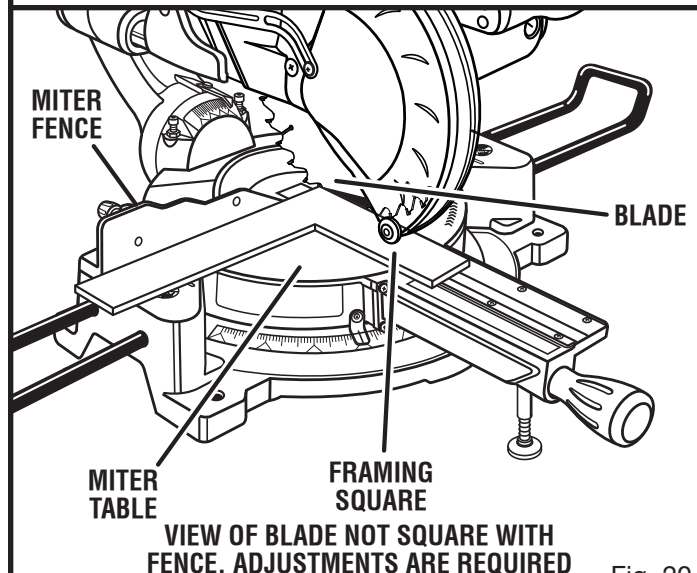

Fig. 20
- If the front or back edge of the saw blade angles away from the square as shown in figures 20 - 21, adjustments are needed.